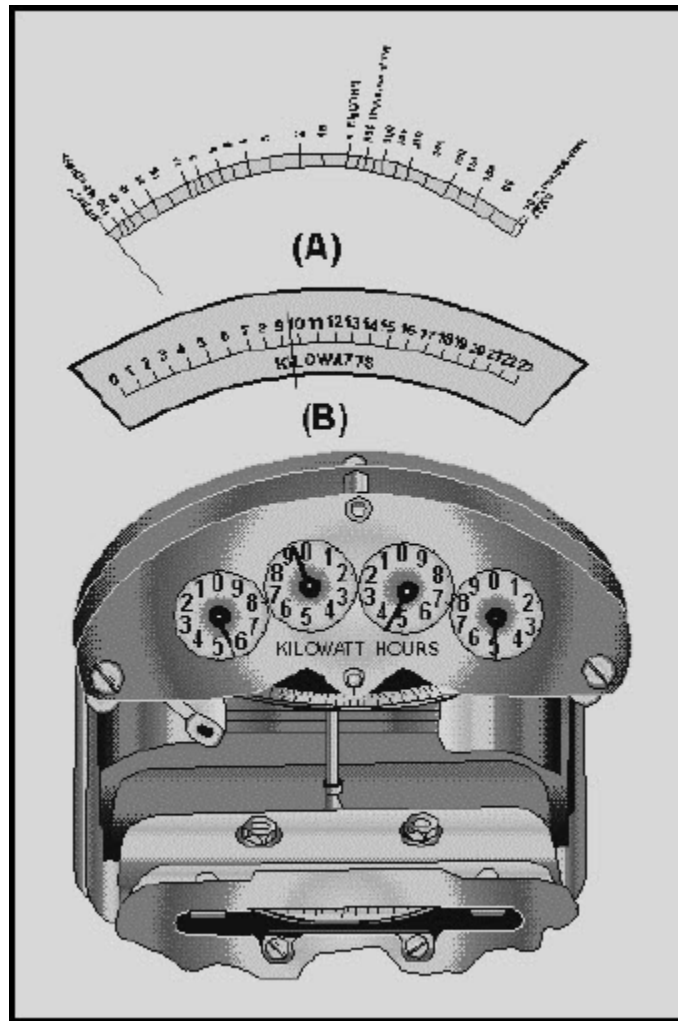

Figure 1-51 Meter reading practice
Q68. What type of meter is shown and what is the value of the quantity being measured for each meter in figure 1-51?
Q69. If the insulation of a conductor was being measured in figure 1-51 (A), would the reading indicate a good insulation?